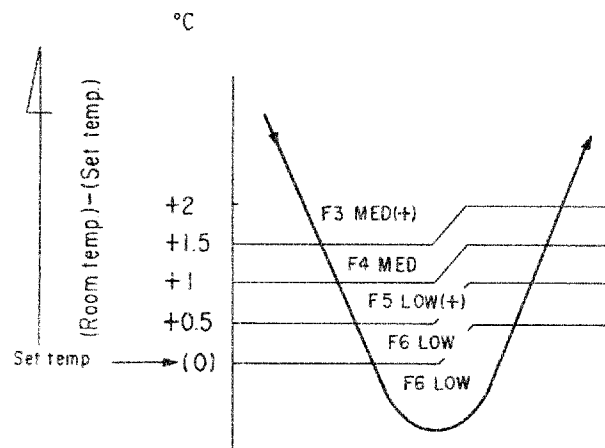

Fig. 2 AUTO
(2) Cool operation (The remote control MODE button is set to the COOL position)
- The indoor fan motor operates as shown in Fig. 2 when FAN SPEED button is set to AUTO.